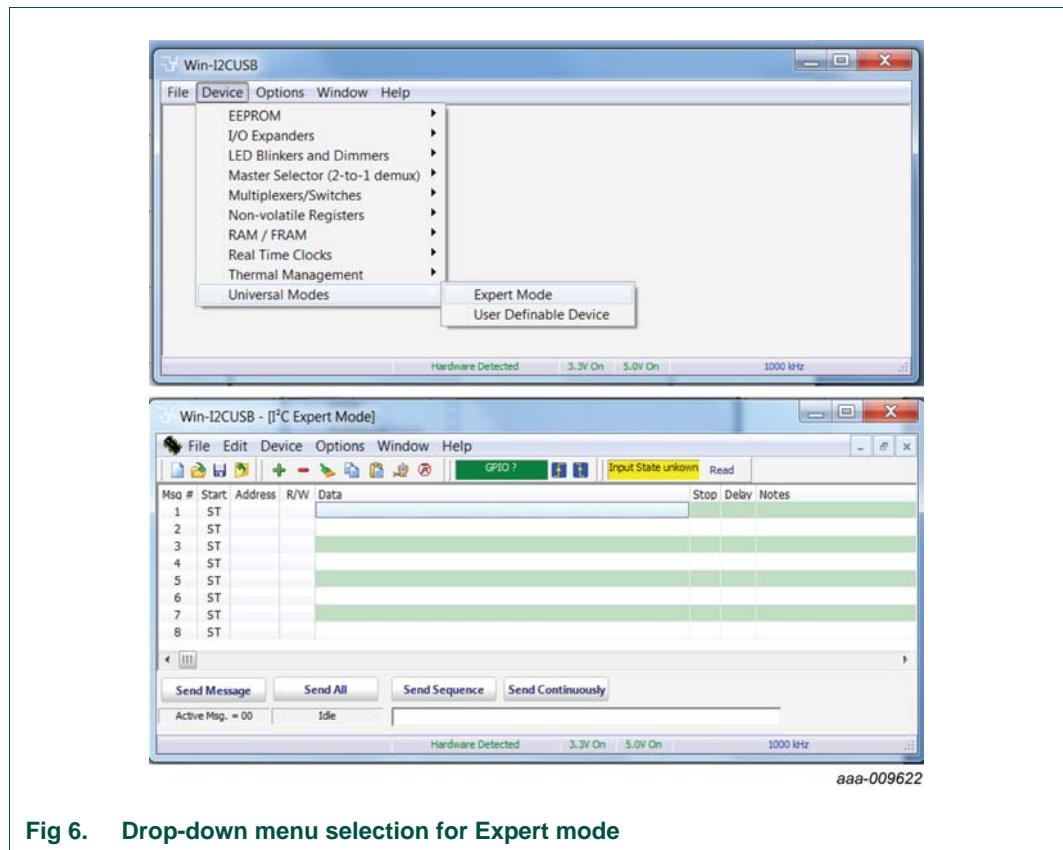

Fig 6. Drop-down menu selection for Expert mode
The PCA9956B is controlled by WIN-I2CUSB GUI in Expert mode, as shown in Figure 6.
Connect the hardware as described in Section 4. All jumpers are in default setting and device address is set to 0xFA on J5, J8 and J9 (set AD[0:2] = VDD) for PCA9956B demo board. When you have correctly installed the software and the demonstration board hardware is connected and recognized by the computer, start the Win-I2CUSB Lite software. As shown in Figure 6, when the demonstration board hardware is correctly
1. From the 'Device' drop-down menus select 'Universal Modes', and from the subsequent drop-down menu select 'Expert Mode' as shown in Figure 6.